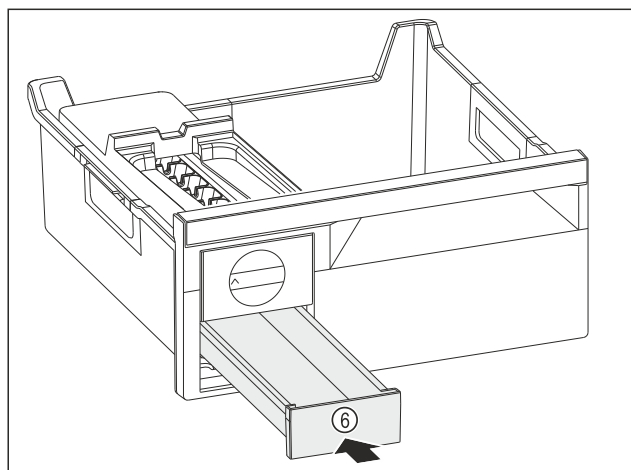

Fig. 136
- Insert the ice cube drawer Fig. 136 (6).